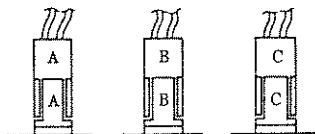

Figure 3-25
- (1) Disconnect the input power cord.
- (2) Of the slave units only, remove the covers referring to Section 4-1-3 and remove the fixing screws of PC board A-650.
- (3) Of each slave unit, change the connections of connectors A, B and C on PC board A-650 as shown in Figure 3-25. (See Figure 3-5). Since the connectors have a lock, do not attempt to pull them out forcefully. (See Figure 3-3.)